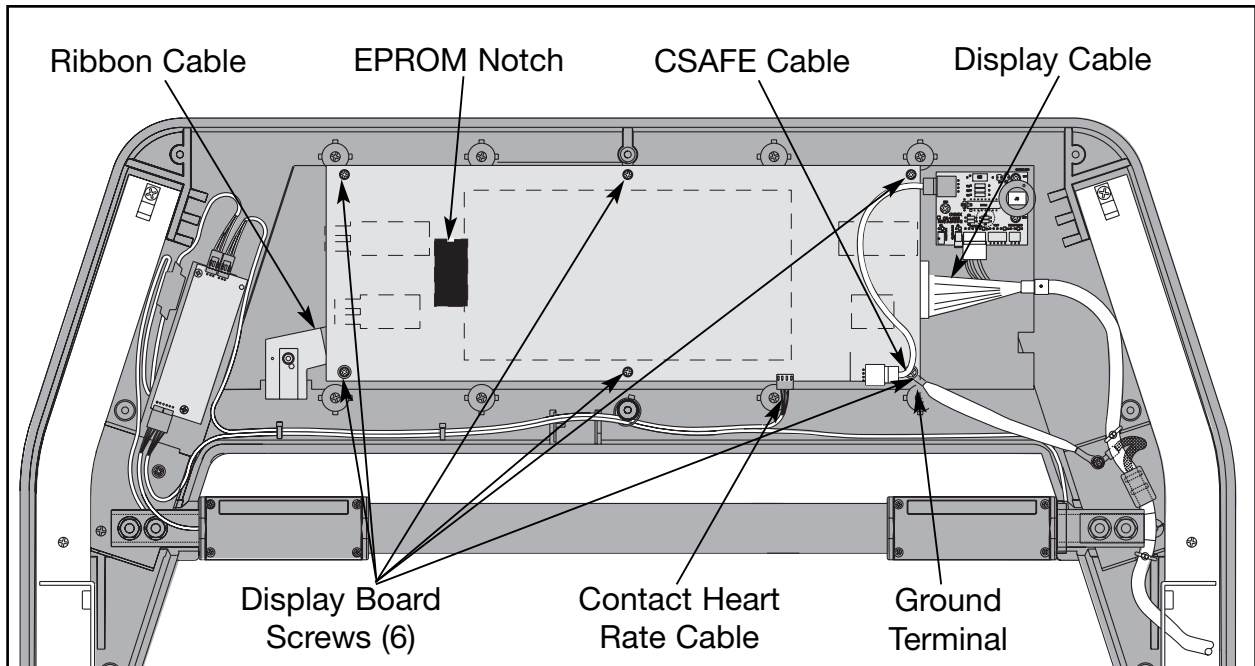

Figure 18
- A. While wearing an ESD strap, disconnect all five cables from the display board; the display cable, the CSAFE cable, the ribbon cable, the contact heart rate cable and the ground terminal. See Figure 18.
- B. With the ground terminal in position, attach the display board with the six Phillips head screws that hold the board to the console. See Figure 18.